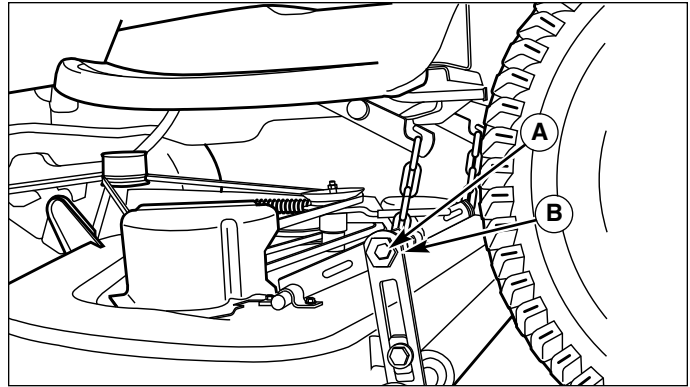

Figure 50. Leveling The Mower Side-to-Side Eccentric Nut Models
5. See Figure 50. Loosen the outside nut (A). Turn the eccentric nut (B) to raise or lower left-hand side of mower. When mower is level, hold the eccentric nut while tightening the outside nut.